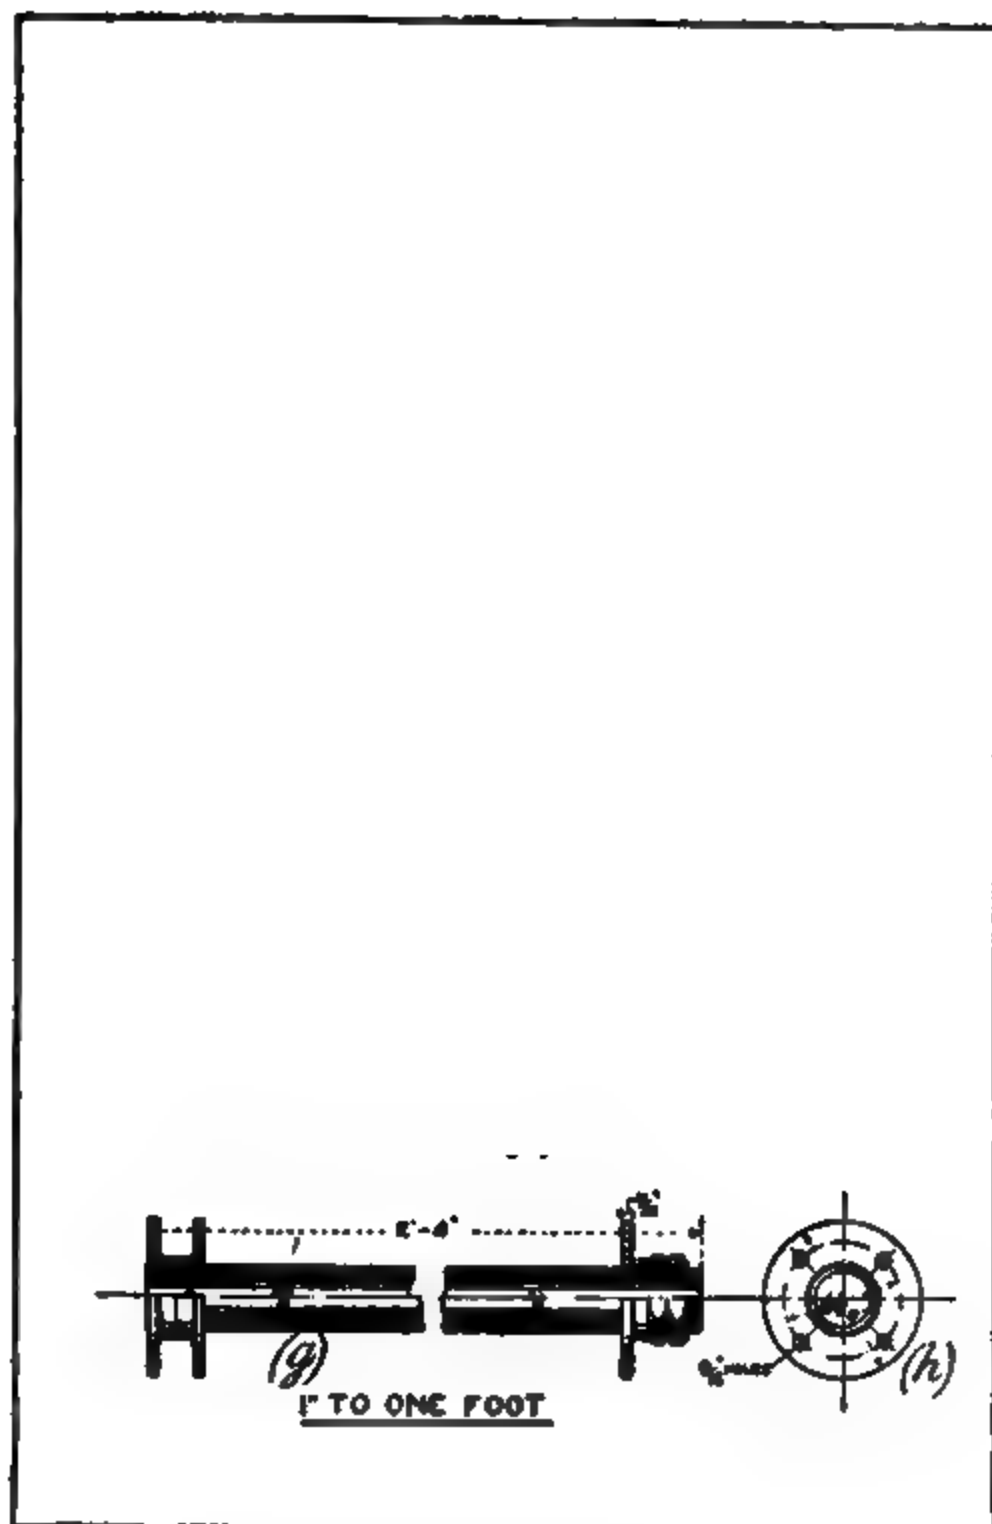

Fig. 66.—Details of windmill.
*The Turn-table* (Fig. 66, *d*, *e*, *f*), which carries the wheel and tail vane, is built up of 2½-in. by 2-in. timber, and 2-in. bore galvanized wrought-iron "water" tube and flanges, the latter being easily obtainable from an ironmonger. The upper flange, which forms a support for the timber framing,
is to be countersunk (this can be easily done with a half-round file), and screwed very tightly on to the tube as far as it will go ; the end of the tube should project slightly beyond the face of the flange, so that it can be riveted over to fill the countersink, and thus leave no possibility of unscrewing (see detail drawings, Fig. 66, *g*, *h*). The two loose flanges, which are bolted to the framework of the tower, are for 2-in. pipe, but the thread has been carefully filed away, so that they may slide freely, but without shake, on to the tube, the upper loose flange forming a footstep bearing, and the lower one a guide, for the turn-table. Windmill makers now mount the turn-table on a ball-bearing to ensure that the mill head may turn freely ; hence careful fitting is essential here. The two back nuts are to guard against any possibility of the turn-table being lifted out of place.
*The Head.*—What woodwork is required for the head (the part carrying the wheel spindle) will be evident from Fig. 66, *d*, *e*, *f*. The joints are simply notched and secured with  $\frac{3}{8}$ -in. bolts. The upright, which carries a bolt or pin for the spur-wheel to revolve upon, is stayed in front and at the sides by a piece of hoop iron ; and the tail vane swivel is a piece of  $\frac{1}{2}$ -in. bore tube with back nuts and washers, through which passes an iron bolt, or rather a piece of iron, screwed at each end
It will be noticed that the axis of the wind-wheel lies to one side of the centre line of the head, the centre lines being  $1\frac{1}{2}$  in. apart, and that the arm which carries the tail vane is hinged to the head. This want of balance creates a tendency for the wheel to turn out of the wind, but this is counteracted by the action of the spiral spring (see Fig. 66, *f*). If the wind be light, the tail vane, which acts, of course, as a weathercock, will keep the wheel normal—that is, at right angles to the
direction of the wind—in which position the wheel will develop its full power. If, however, the wind pressure increases sufficiently to overcome the resistance of the spring, the head will alter its relative position to the tail vane, with the result that the wheel will turn more or less obliquely to the wind and receive its force with diminished effect. To stop the mill, the spring is extended by an external agency—namely, the wire cord seen in Fig. 66, *d* and—which causes the wheel to turn parallel to the vane, so that it presents only its edge to the wind.
A 2-in. bore "lift and force" "windmill" pump could be purchased for about 30s., and in the end this will probably be found the cheapest and most satisfactory plan to adopt. The pump is driven by a pin screwed into the side of the spur-wheel and secured by a lock nut. Three or four holes should be drilled and tapped at different distances from the centre of the wheel, in order that the length of stroke may be adjusted (Fig. 66, *d* and *e*). If the wheel have spokes, and these are too slight to admit of drilling, a clamp with a projecting pin could, no doubt, be devised, or a disc crank could be made out of a pipe flange.